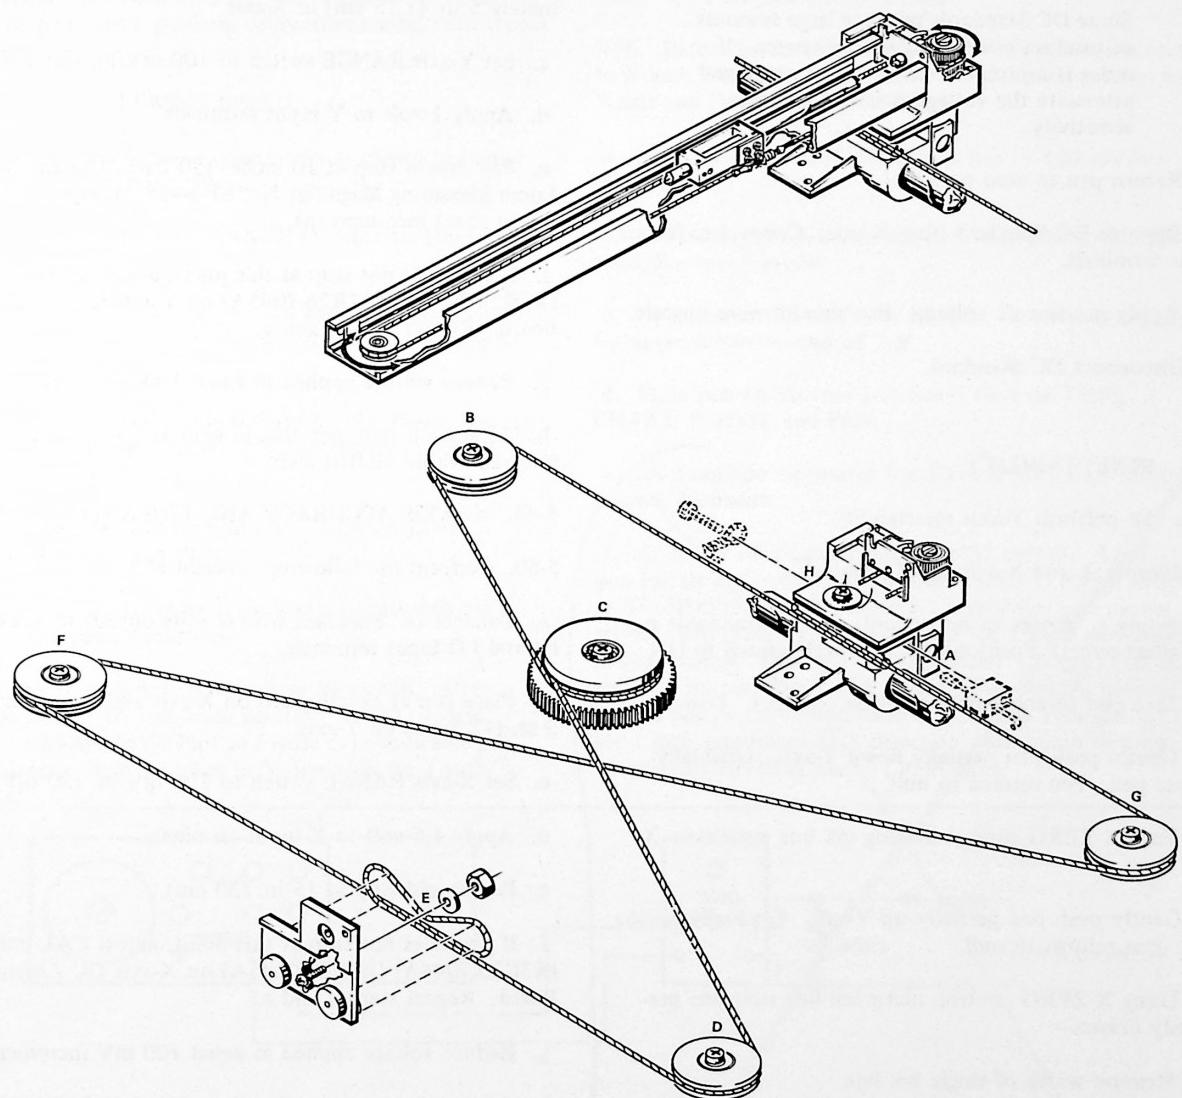

Figure 5-11. X and Y-Axis Restrung, 7045A Model
d. Using X-axis cable assembly, Part Number 07041-60009 insert plastic adjustment block into hole in slider block (Point A). See Figure 5-11. Place screw in slider block and thread into plastic adjustment block. Route cable in counterclockwise direction around pulley (Point B) to drive pulley (Point C). Loop in counterclockwise direction around pulley two times. Proceed to lower right corner pulley (Point D). Loop in clockwise direction around carriage arm block (Point E) going on inside of pulley to left corner pulley (Point F). Pass cable under previous stringing to loop around last pulley in right upper corner (Point G). The stringing terminates at the other end of slider block (Point H). Remove screw holding plastic adjustment block. While holding block in position, insert screw through cable loop and into slider block.